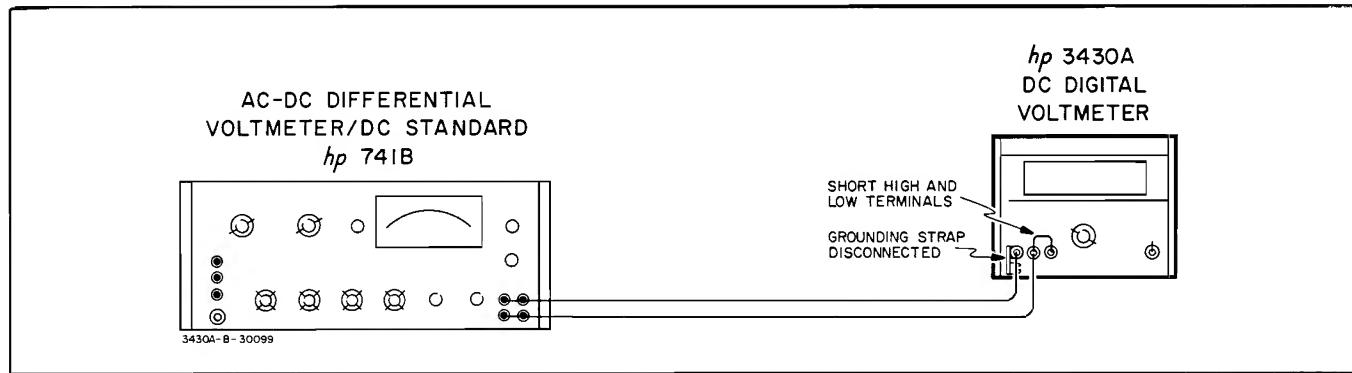

Figure 5-4. DC Common Mode Rejection Check
- Connect the 3430A as shown in Figure 5-4.